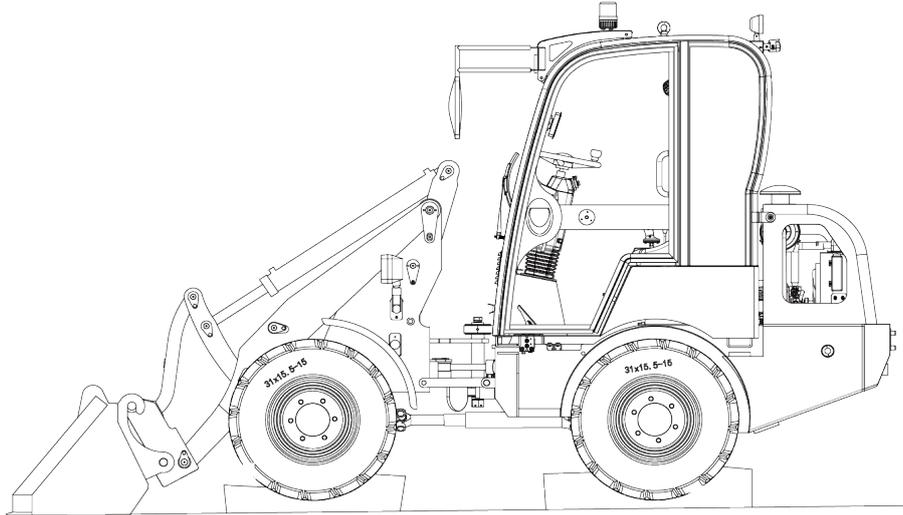

图6-17 Parking status
(2) Filling port of hydraulic oil tank
Step 2: Park loader on a flat field, place control handle in neutral position, stop and pull up parking brake handle, put the blocks before and after the tires, as shown in Figure 6-17;